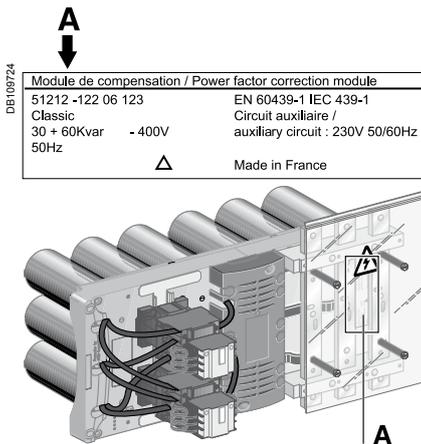

Fig. 1: power factor correction module rating plate.
- check the electrical characteristics indicated on the rating plate (A Fig. 1) correspond to those on the order form.